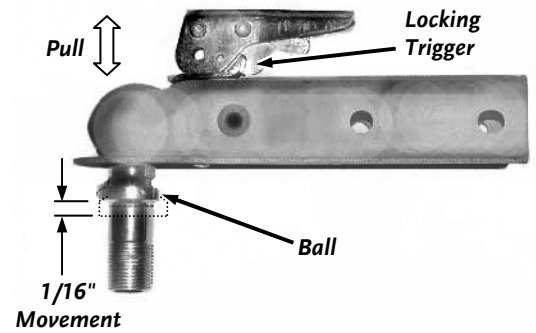

Figure 54
1. Place the proper size ball in the socket of the coupler and close the latch assembly (**Figure 54**). Verify that the locking trigger is properly engaged in its detent.